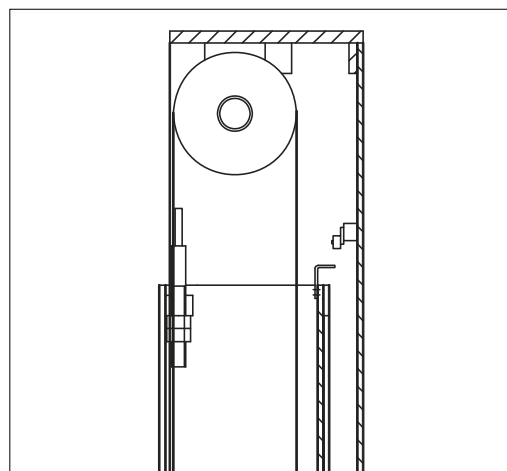

Fig. 15
- ◆ If the lift reaches to the maximum height, the up limit switch will stop the lifting. **(Fig.15)**
- ◆ If the moving part exceed its travel distance, on the upper part of the command post there is one limit switch and is usually set working by the “actuator” (*Fig. 15*) on the command side carriage. If the first limit switch did not work, the second one would trip after 3sec of carriage run.